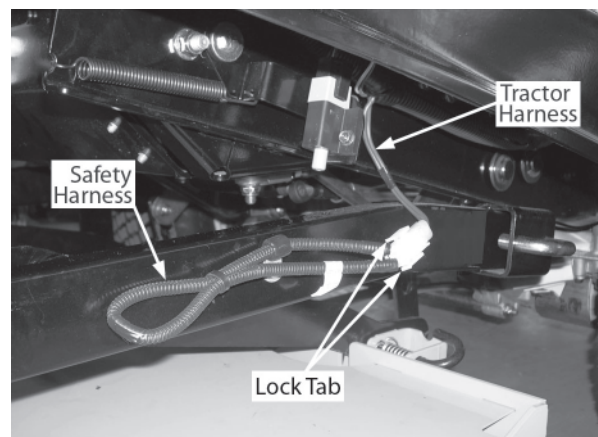

Figure 7-8
- On the left side of the deck frame, locate the safety electrical harness connection. Spread the lock tabs on the harness connector and disconnect the deck frame safety harness. See Figure 7-8.
- Connect the safety harness to the tractor harness. Refer to Figure 7-8.